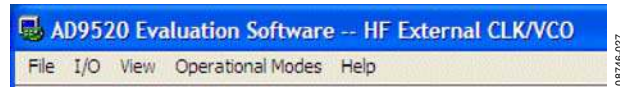
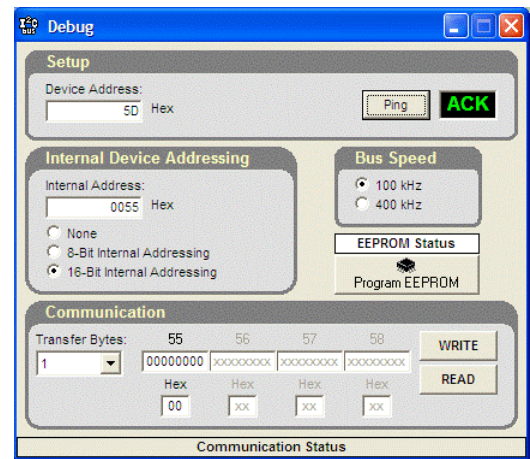

Figure 24. Menu Bar
Figure 29. Evaluation Software I2C Debug Window
7. From the **View** menu on the menu bar (see Figure 24), click **Debug**. Click the **I2C Debug** button. The window shown in Figure 29 appears.
8. Enter the I2C address set by Jumper S5 and Jumper S6 on the AD9520 evaluation board, and click **Ping**. The user sees a green **ACK** message as shown in Figure 29.